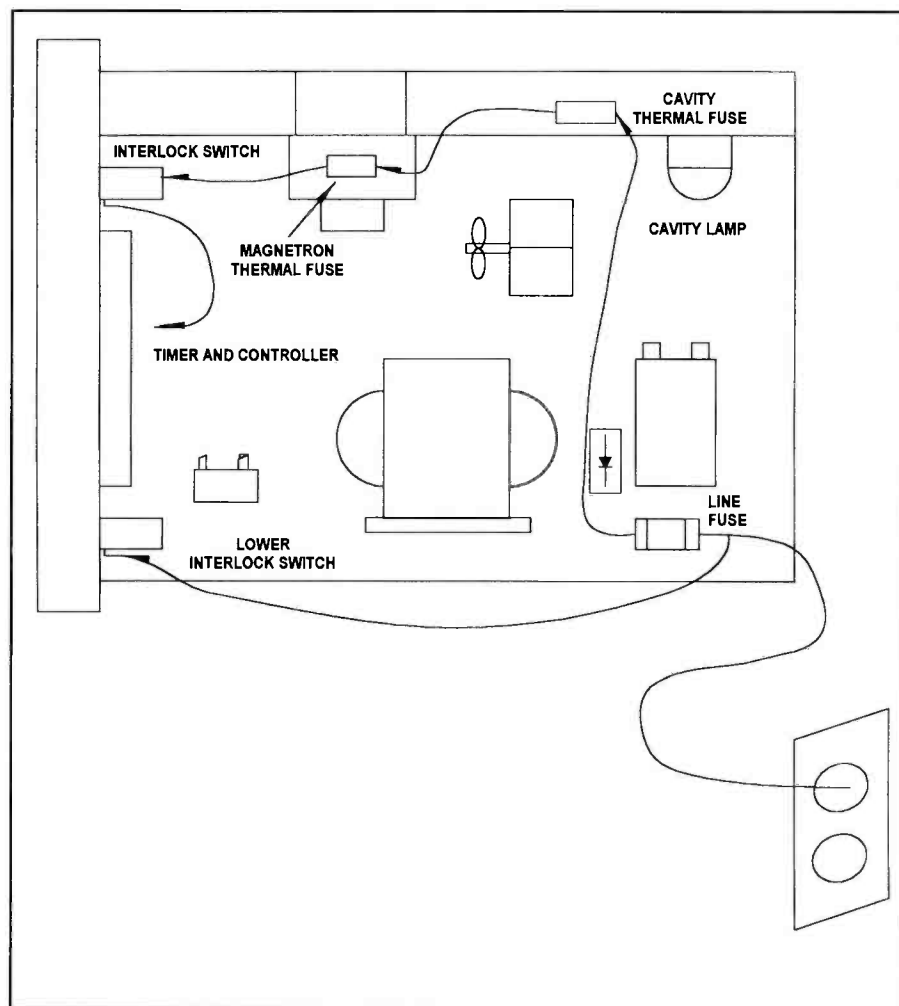

Figure 1. A generalized diagram of power flow into and through a typical microwave oven.
10. The maximum output power for the battery in Figure 1 occurs when $R_2 =$ _____ (Ω) ohms.
Basically, here is how it works: As shown in Figure 1, electricity from the wall outlet travels through the power cord and enters the microwave oven through a series of fuse and safety protection circuits. These circuits include various fuses and thermal protectors that are designed to deactivate the oven in the event of an electrical short or if an overheating condition occurs.